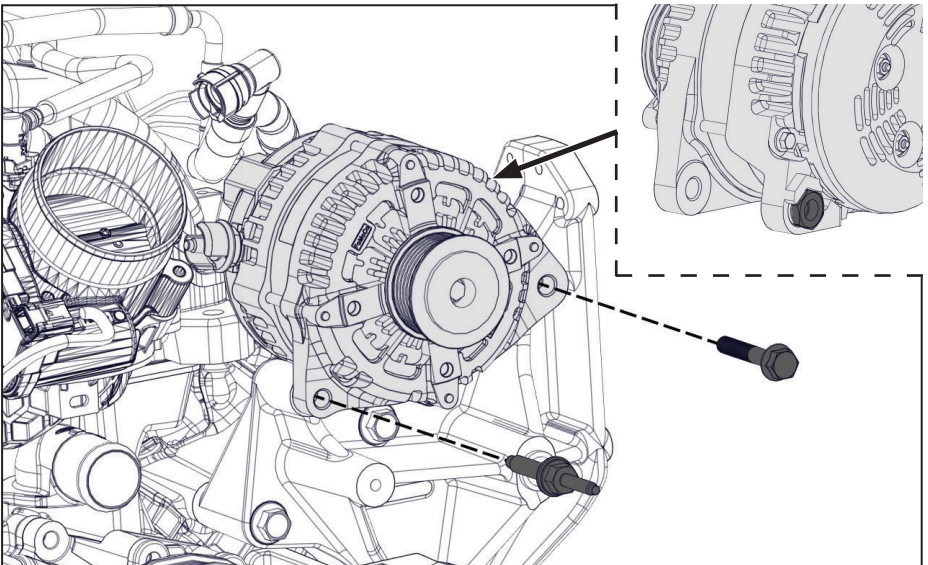

Figure 14 — Install alternator
- Press the captive nut and bushing on the rear of the alternator back to prevent interference with the bracket (Figure 14).
- Using the OEM fasteners, install the primary alternator onto the main bracket (Figure 14).